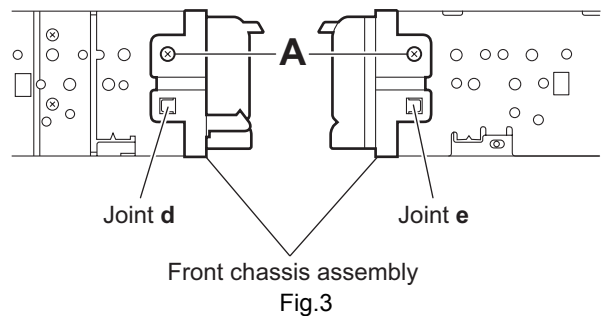

Fig.3
#### 3.1.3 Removing the front chassis assembly (See Figs.3 and 4)
- (1) Remove the two screws **A** on the both sides of the main body. (See Fig.3.)
- (3) Release the joint **d** and joint **e** on the both sides of the main body, then remove the front chassis assembly toward the front. (See Fig.3.)